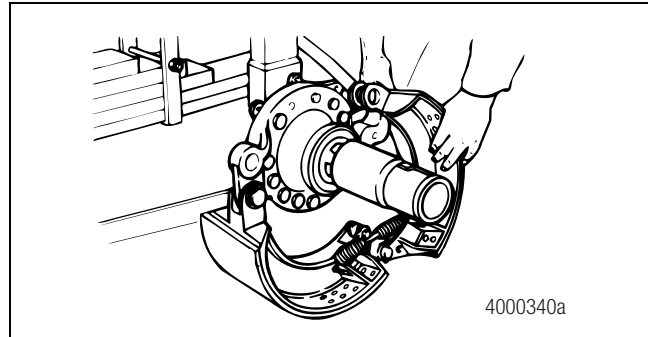

Figure 3.9
- Rotate the top shoe to release the tension on the brake shoe return spring. Remove the shoe. Figure 3.9.